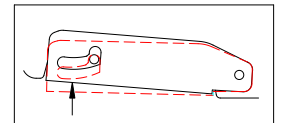

Fig. 2
- > Depress the lock mechanism. It should move downward easily and spring back to its original position without binding or sticking (Fig. 2).